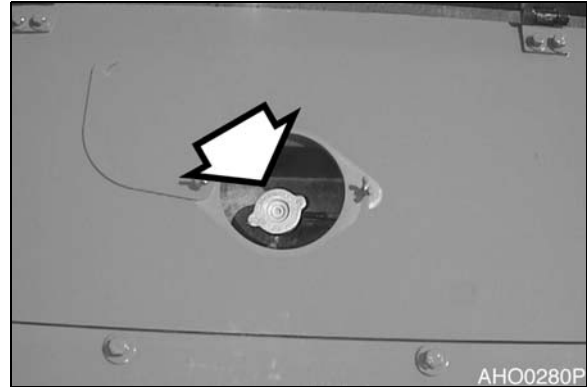

Figure 20
1. Remove fill cap from radiator (Figure 20). Check level of coolant inside radiator. If low, add coolant to fill radiator to a point that is 10 – 20 mm (1/2 – 3/4") below top of overflow pipe. If temperature is below freezing, see "Antifreeze Concentration Tables" on page 4-61 for antifreeze protection. Use the table to calculate a proper mixture of antifreeze and water to provide level of protection necessary for expected temperature.